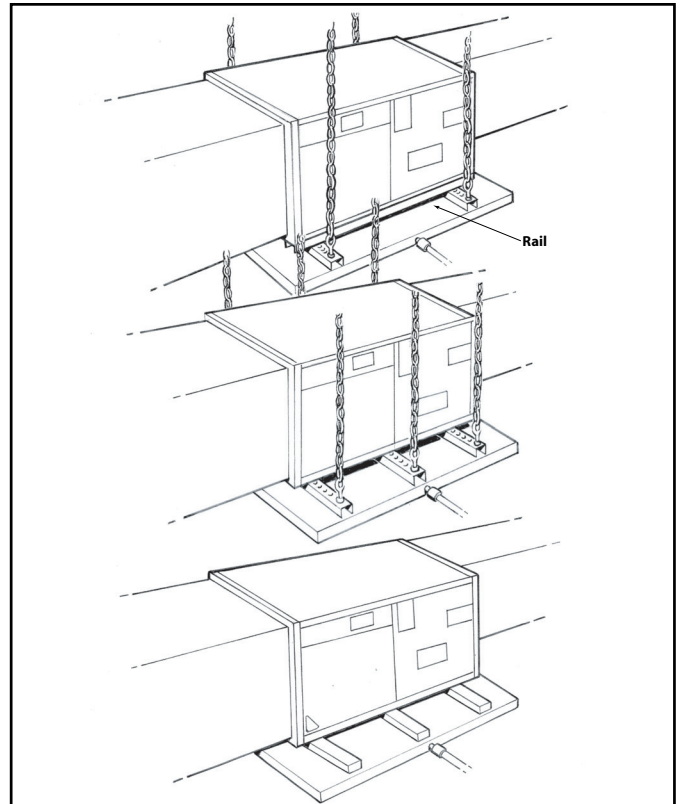

Figure 8. Mounting Installation Options for Horizontal Applications
3. If the unit is suspended, it must be supported from the bottom near both ends as well as the middle to prevent sagging. The service access must remain unobstructed. If the unit is supported along the length of the front and back with rails, the air handler only needs to be suspended at both ends. See Figure 8.